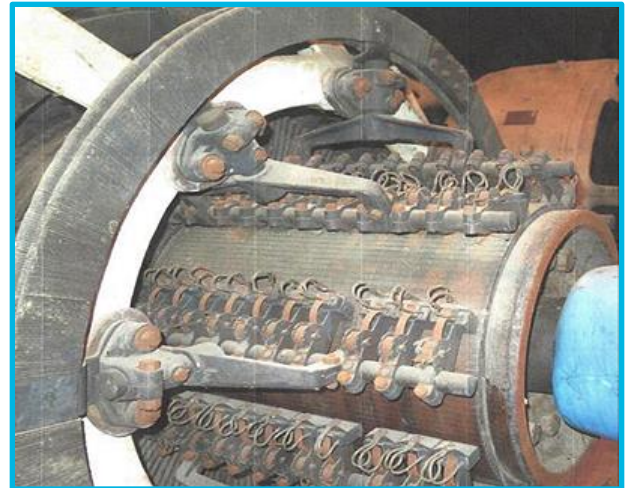

Fig. 1
In the early years of the development of electric power systems, all operated on a direct current (DC) basis. However as these systems became larger and more powerful, several disadvantages became evident. One, of course, was the fact that the only way to send more power over longer distances was to increase the voltage. But it was soon found that higher voltages became more dangerous to handle, particularly for domestic applications. (E.g. 120 Volts is the standard in North America, while elsewhere the maximum is 240 Volts). The other problem encountered with large DC motors and generators was that the commutators became a frequent source of breakdown and repairs. In general, commutators are not seen very often today, except in steel mills. The unit shown in Figure 1 below is a medium size unit in a plant which is no longer in use and is not open to the public. Hence it is not very clean. If it were in regular use, the copper commutator segments would be kept shiny bright by the light rubbing pressure of the graphite brushes.